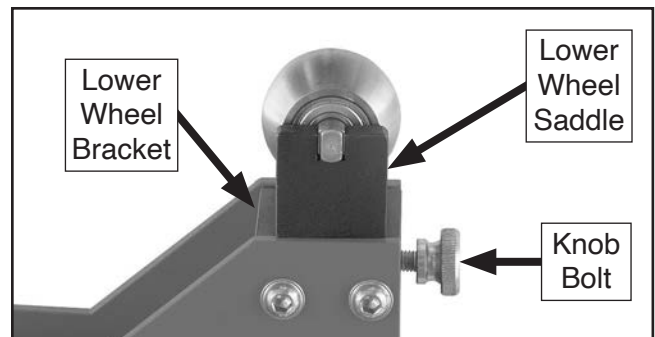

Figure 18. Lower wheel saddle lowered flush with bracket.
1. Loosen knob bolt and rotate handwheel until lower wheel saddle is flush with lower wheel bracket (see **Figure 18**).